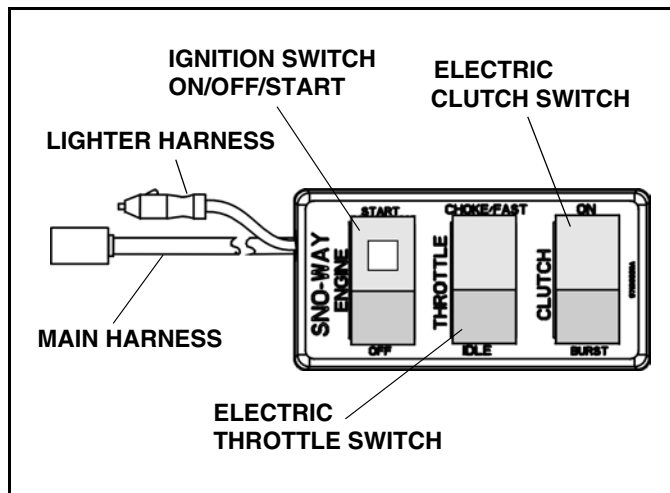

Figure 1-2
4. Mount the Cab Control (See Figure 1-2) in a convenient location. Due to the variety of possible in-cab locations, Velcro® is provided. A suitable bracket should be made and fastened to the cab.